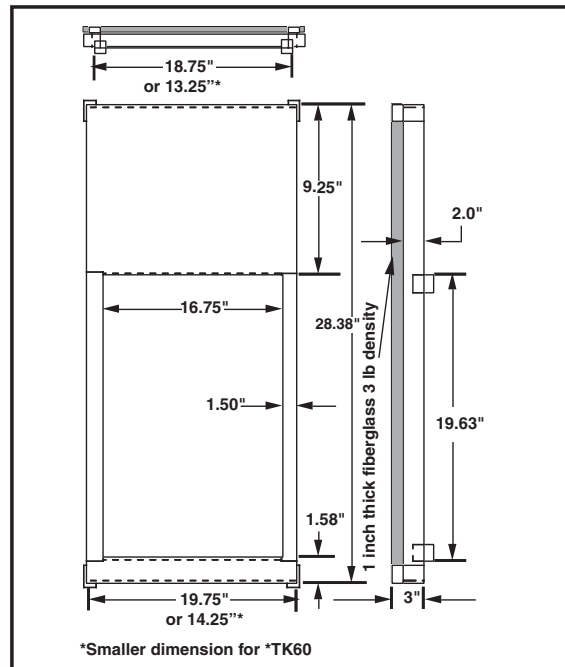

Figure 5. Downflow Sub-Base Dimensions
2. Install the sub-base according to the installation instructions. (See Figure 5)